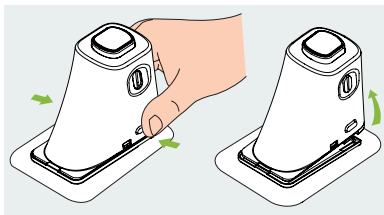

Figure 57
**5** Release the inserter from the pump base by pressing the button on the lower end of the cannula inserter as shown in Figure 57. If the inserted needle or needle base remains in the pump base, carefully remove it from the infusion site. Place the protective sleeve back onto the cannula assembly.